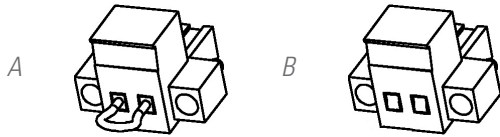

Fig. 22. Connector for external EPO.
- The device is dispatched from the factory with its EPO circuit set to closed (NC) by default. In other words, the UPS will cut the output power supply, emergency power off, when the circuit is opened:
- Either by removing the female connector from the socket where it is inserted. This connector has a cable connected as a jumper that closes the circuit (see Fig. 22-A).
- Or by pressing the button external to the device belonging to the user installed between the terminals of the connector (see Fig. 22-B). The connection on the button must be in the normally closed contact (NC), so it will open the circuit when activated.